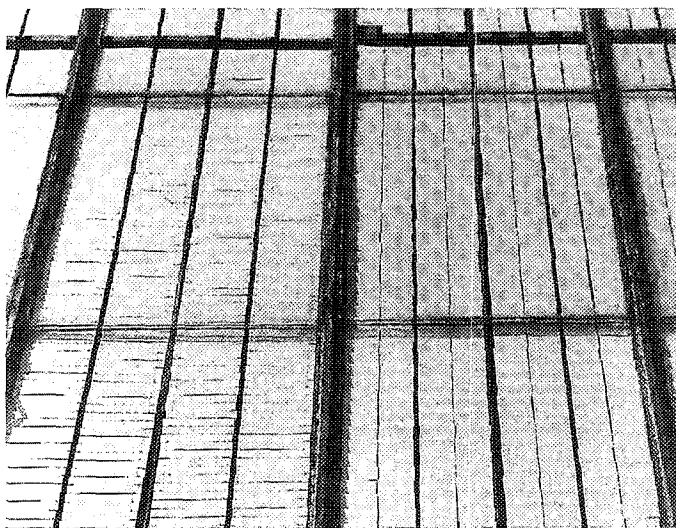

Figure 13. Bleach house outside window detail, inclined tails and heads resting on zinc-toothed racks, 1930s. Pratt-Read Records.
25. Hix (n. 22 above), fig. 13; and Eugene Ostroff, "Anatomy of Photographic Darkrooms," in Ostroff, ed., *Pioneers of Photography* (Springfield, Va.: Society for Imaging Science and Technology, 1987):figs. 18, 31.
31. Charles Wood to George Christoph, May 21, 1914, Wood & Brooks Records Collection (457), Archives Center, National Museum of American History, Smithsonian Institution.